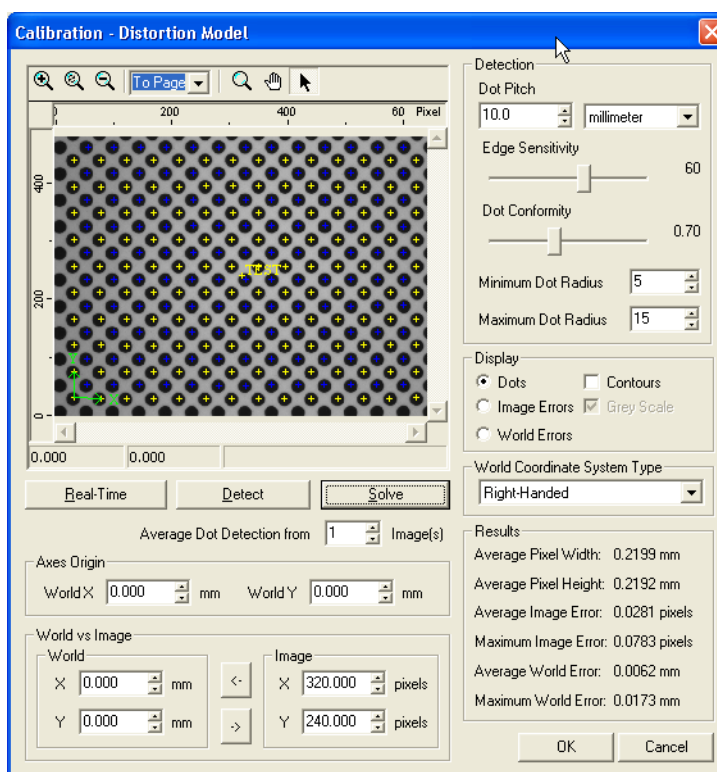

Figure 223 Distortion Model Dialog
2. Click **Show Calibration Dialog** to open the Distortion Calibration dialog illustrated in Figure 223.